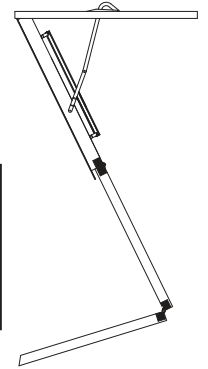

Figure 18 Unfolding ladder sections
V. Installer #1: YOU MAY NOW REMOVE THE PLASTIC STRAP HOLDING THE ATTIC LADDER SECTIONS TOGETHER. With wire cutters, remove the plastic strap that is holding the ladder sections in a closed position. Carefully unfold the ladder sections to the ground. Position the bottom section behind the middle section. See Figure 18.